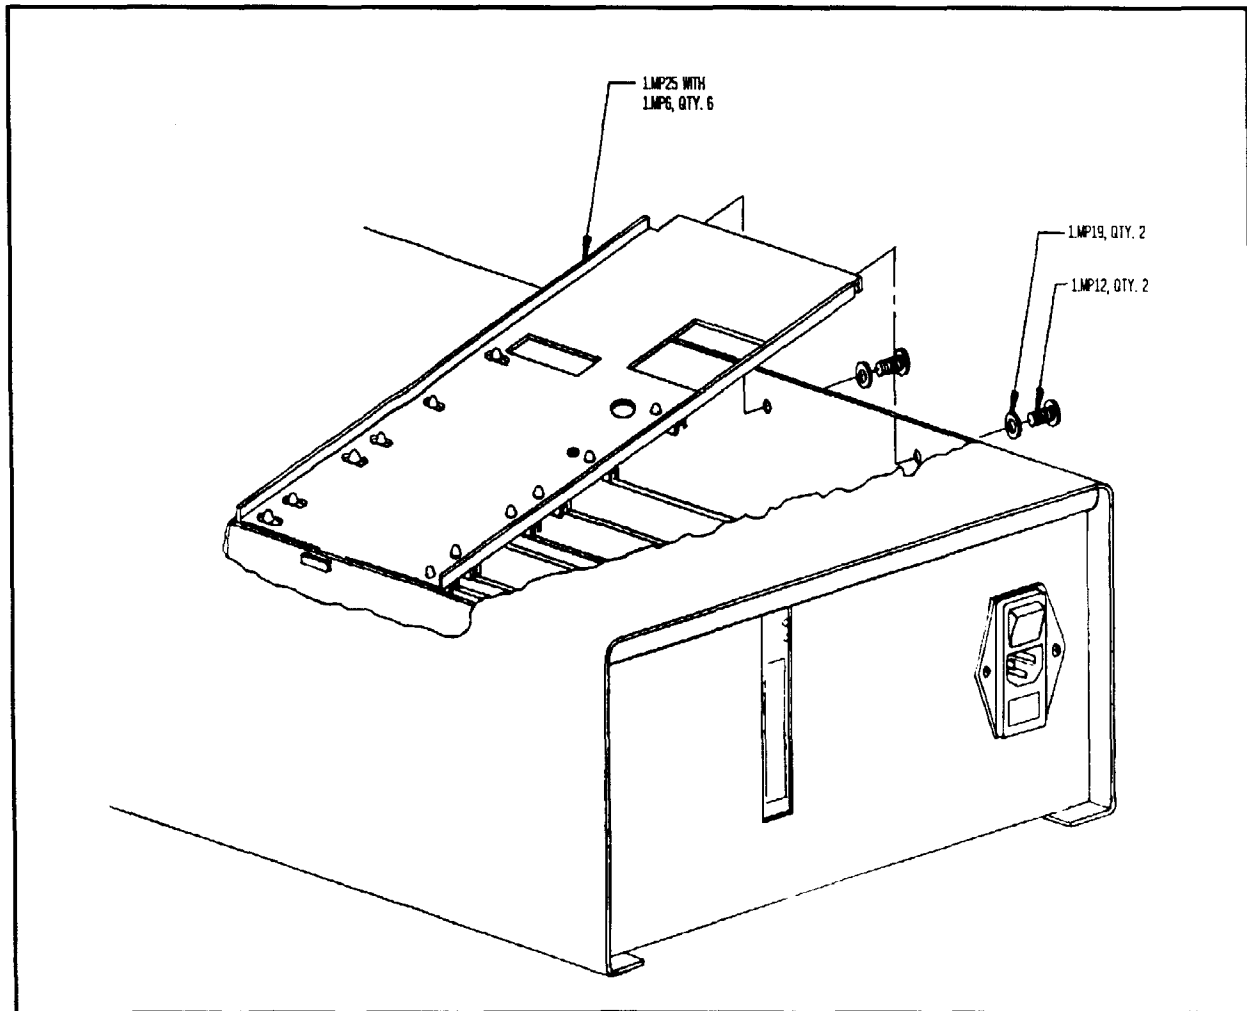

Figure 3-2. PCB Retaining Bar Removal.
2. PCB Retaining Bar Removal (refer to Figure 3-2)
11. PCB Retaining Bar (Figure 3-2)